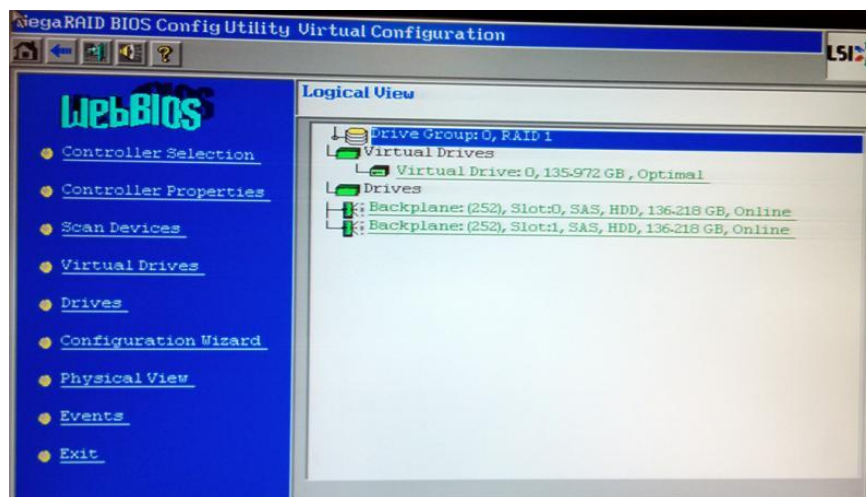

Figure 31: Correct Logical Drive Information
8. If the information in Figure 31 is not shown on your screen, the MegaRAID configuration may not be imported correctly. In this case, please Exit the utility without saving the configuration, then power cycle it to import the configuration again by repeating this step.
10. If the information in Figure 31 is shown on the screen, the configuration is correctly imported. The server will boot up properly, then.